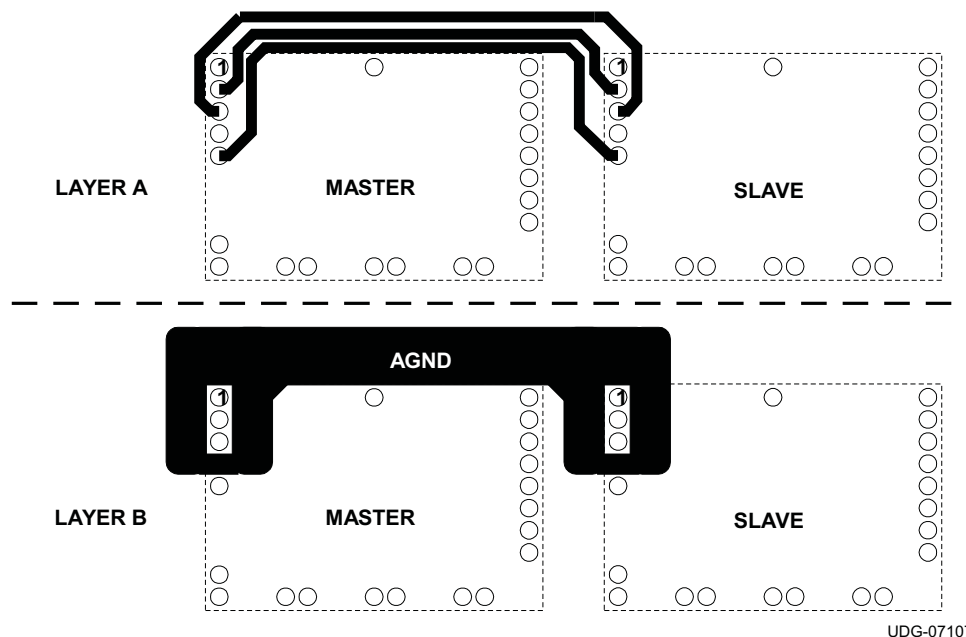

Figure 22. Recommended Layout of Inter-Connection Pins Between Two Current Sharing Modules
The PTH08T255W module is capable of being configured in parallel with another PTH08T255W module to share load current. To parallel the two modules, it is necessary to configure one module as the Master and one module as the Slave. To configure a module as the Master, connect the CONFIG pin (pin 1) to GND. The CONFIG pin of the Slave must be connected to  $V_I$ . In order to share current, pins 2 thru 5 of both the Master and Slave must be connected between the two modules. See Figure 22 for the recommended layout of pins 2 thru 5. The module that is configured as the MASTER is used to control all of the functions of the two modules including Inhibit ON/OFF control, AutoTrack sequencing, TurboTrans, SmartSync, +/- Remote Sense, and Output Voltage Adjust. See the current sharing diagram in Figure 19 for connections. The MASTER and the SLAVE must be powered from the same input voltage supply.
(1) For more details on the pin descriptions, please refer to the 'Terminal Functions' described in Table 1
(2) See Layer A in Figure 22 for recommended layout
(3) See Layer B in Figure 22 for recommended layout
In current sharing applications the  $V_I$  pins of both modules must be connected to the same input bus. The  $V_O$  pins of both modules are connected together to power the load. The GND pins of both modules are connected via the GND plane. Four other inter-connection pins are connected between the modules. Figure 22 shows the required layout of the inter-connection pins for two modules configured to share current. Notice that the Share (pin 2) connection is routed between the Comp (pin 3) and CLKIO (pin 5) connections. AGND (pin 4) should be connected as a thicker trace on an adjacent layer, running parallel to pins 2, 3 and 5. AGND must not be connected to the GND plane.